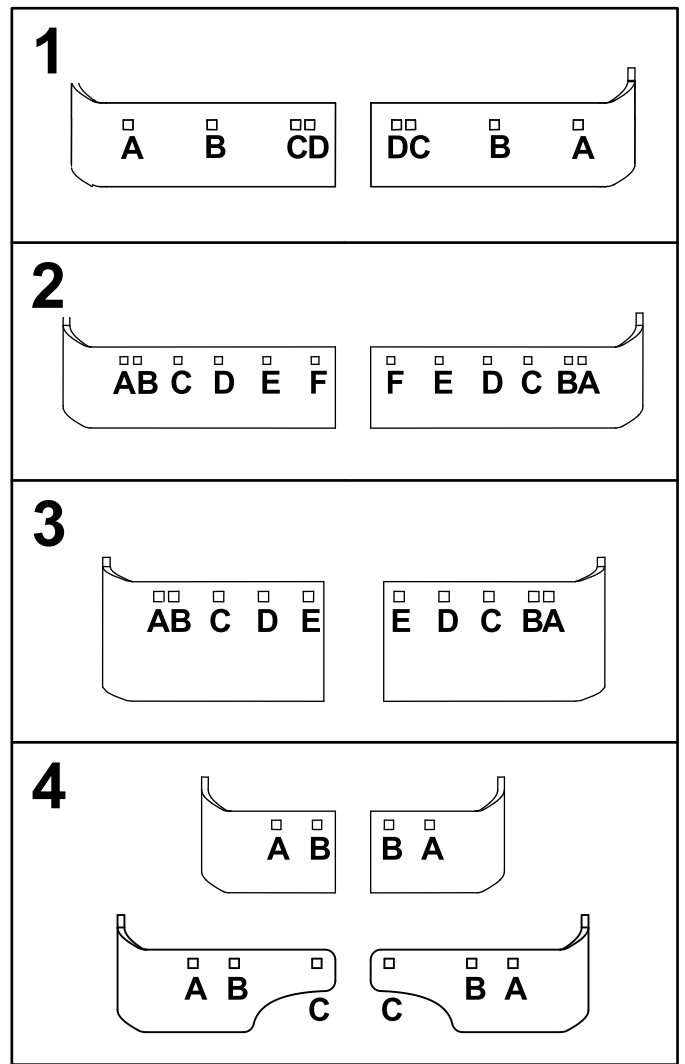

Figure 2
4. Use the table below to determine which holes in the curb guard (Figure 2) to mount the guard through.